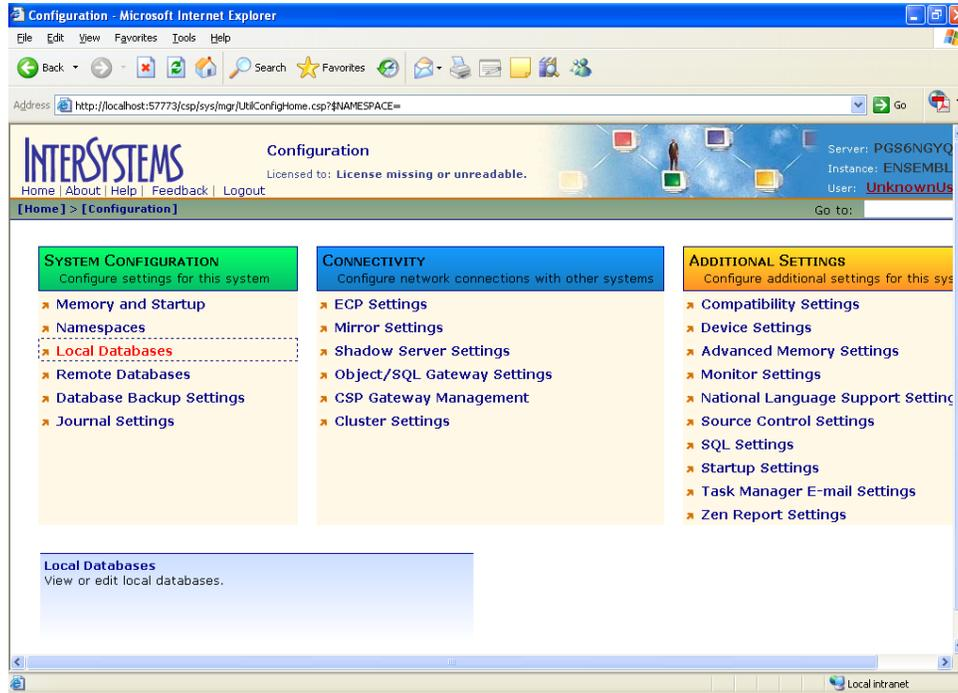

Figure 4-15: Configuration page with Local Databases link highlighted
1. In the **System Management Portal**, click **Configuration** and then click **Local Databases**, as shown in Figure 4-15.